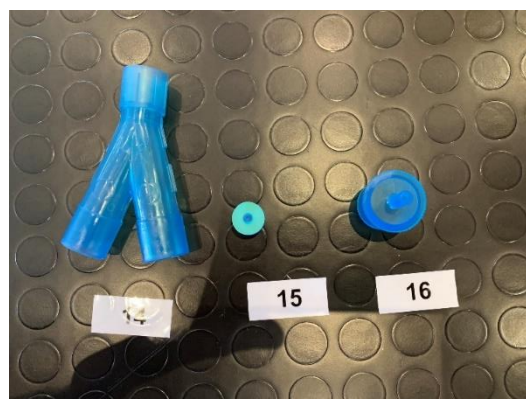
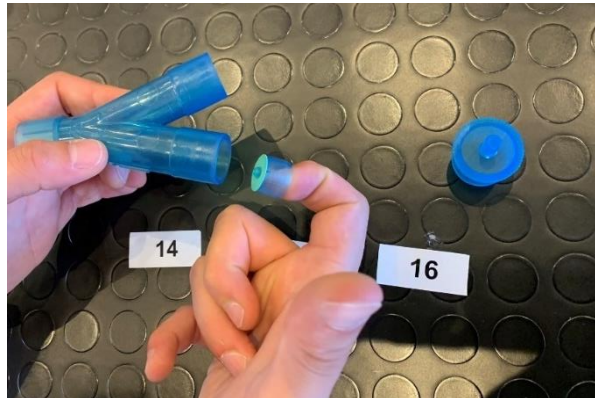

Figure 4.25: Assembling the ABU Y-connector part 1
Figure 4.26: Assembling the ABU Y-connector part 2
- 19- Insert, in the right direction shown in Figure 4.25, the ABU Y-connector one-way valve (15) into one of the free openings of the ABU Y-connector (14) as shown in Figure 4.26.